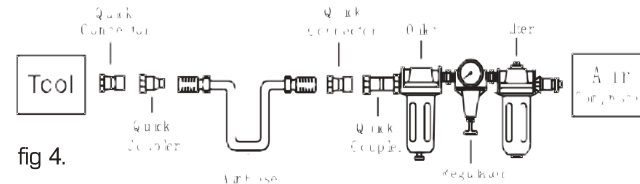

fig 4.
■ A filter-regulator-lubrication is required and should be located as close to tool as possible.(see fig 4.)